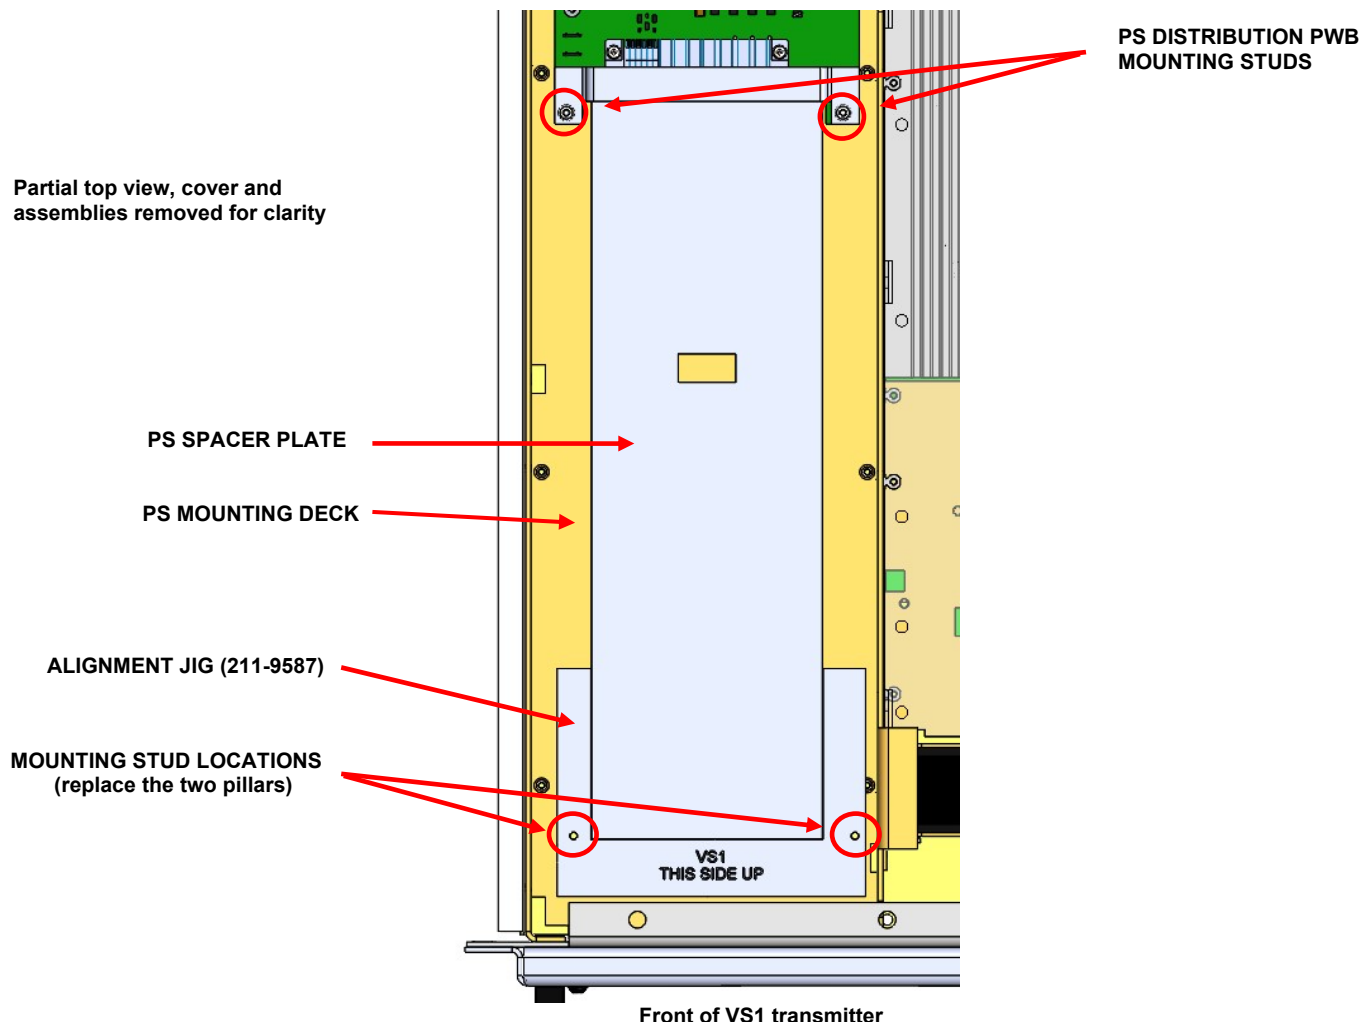

Figure 2: Spacer Plate and Alignment jig
Refer to Figure 2 and the attached Mechanical Drawing MD-4 for reference.
- (a) Clean surface where the Spacer Plate is to be installed with Isopropyl alcohol. See Figure 2.
- (c) **Remove and discard** the pillars and star washers on the two mounting studs near the front of the transmitter (see Figure 2).
- (d) Temporarily install the Alignment Jig over the two mounting studs in step (c). Note orientation of jig (see Figure 2). Use the opening in the jig to align the Spacer Plate before securing to the PS Mounting Deck.
- (e) Secure the Spacer Plate to the PS Mounting Deck by removing the plastic coating from the double-sided tape on the Spacer Plate. Install using the Alignment Jig as shown in Figure 2, noting that plate orientation is not important for VS1 transmitters. Press firmly for 30 seconds until the Spacer Plate is secure.
- (g) Obtain two pillars (Nautel part # HMP61) from the Field Modification kit and install them – with two star washers (Nautel part # HMW10) from the Hardware Kit - on the mounting studs near the front of the transmitter (see Figure 2).
Do not install the M3 nuts and washers on the two studs closest to the Power Supply at this time. The Rear Support Bracket secures the PWB to the chassis. See Figure 2.